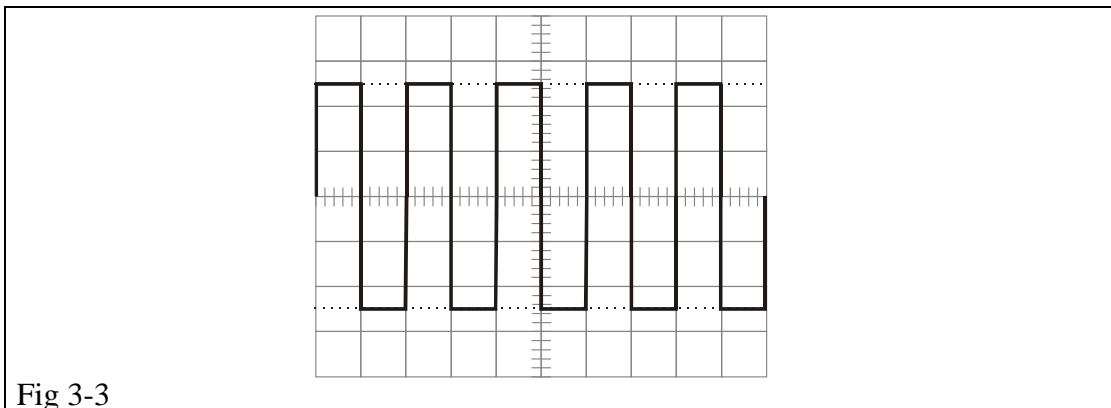

Fig 3-3
(2) OPERATION
(3) Horizontal Level Adjustment :
(4) Connects the calibration signal [5] to Y input terminal[19] with 1:1 probe
(5) Adjust positions [7]、 [16] to obtain waveform like Fig 3-3.